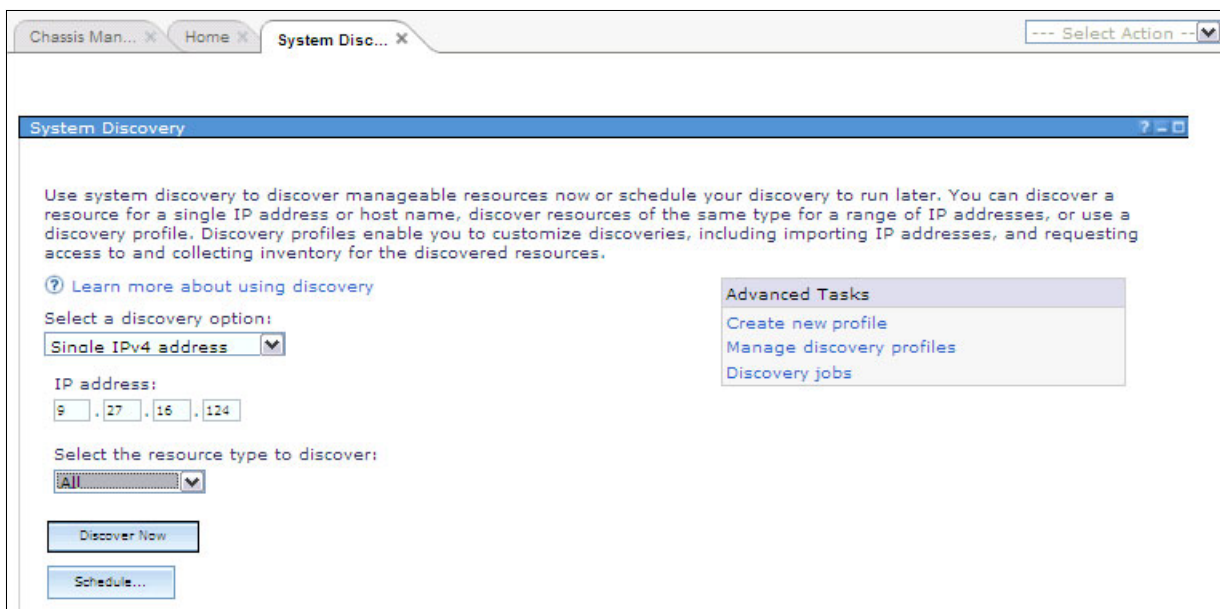

Figure 9-24 KVM hosts with Common Agent discovery
5. Go to Discovery Manager, select the **System Discovery** task, enter the IP address of the host, and then, click **Discover Now**, as shown in Figure 9-24.